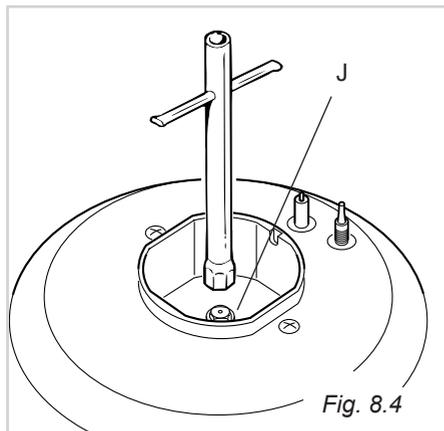

Fig. 8.4
- Using a wrench, substitute the nozzle injectors “J” (figs. 8.4, 8.5) with those most suitable for the kind of gas for which it is to be used.